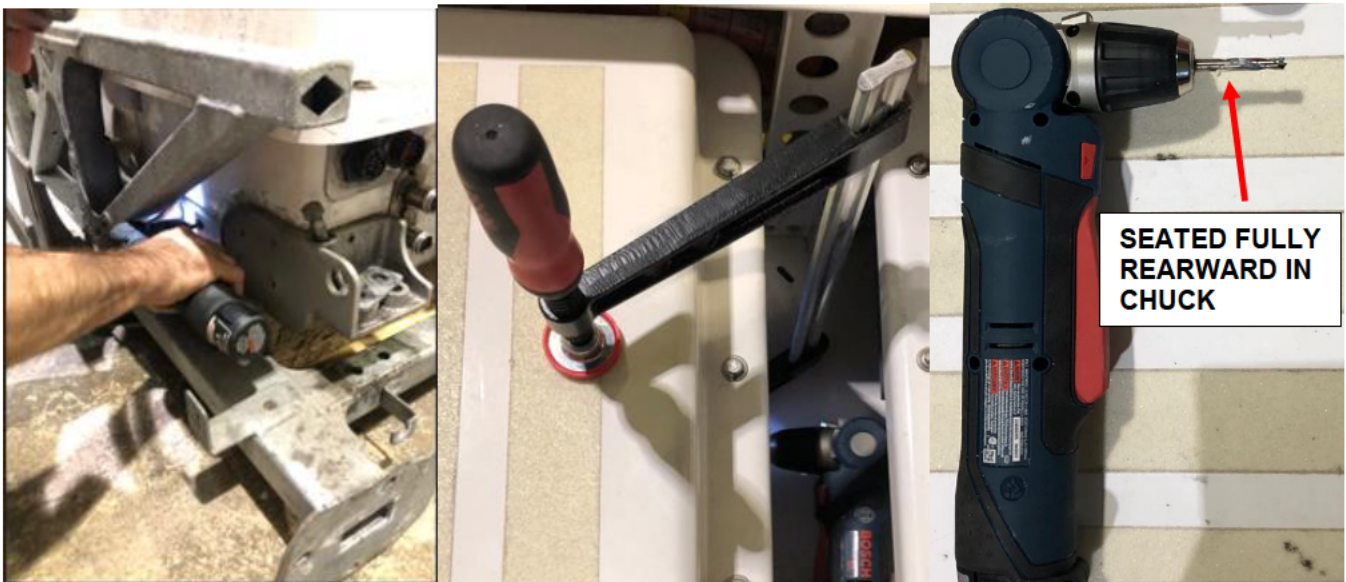

Figure 22: Pilot Hole Operation – PROVIDED 1/4" STUB DRILL MUST BE SEATED FULLY REARWARD IN CHUCK
- Using the SUPPLIED 1/4" STUB DRILL bit and BOSCH ANGLE DRILL attachment, drill a hole into the ESS compartment through the preset hole in the fixture. Reference Figure 22 for details on the pilot hole operation.